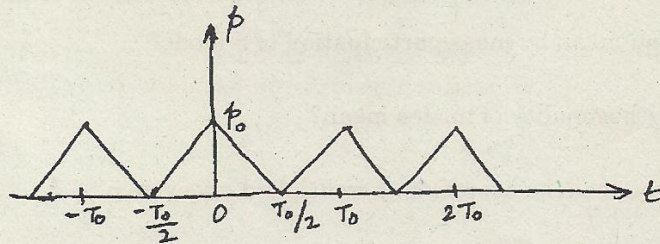

Fig. 2
- (b) An SDF system with natural period  $T_n$  and damping ratio 3 is subjected to a periodic force as shown in Fig. 2, with an amplitude  $P_0$  and period  $T_0$ .